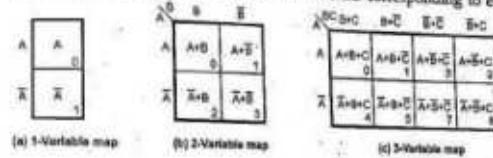

Fig. 4.2.4 1, 2, 3 and 4-variable maps with sum terms
- The Fig. 4.2.4 shows the way to label the rows and columns of a 1, 2, 3 and 4-variable maps using gray code and the sum terms corresponding to each cell.